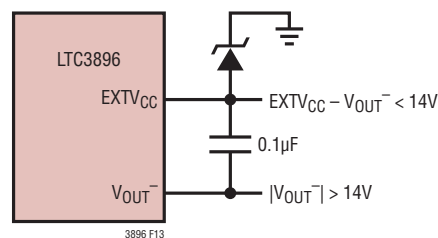

Figure 13. Using a Zener Diode Between  $EXTV_{CC}$  and Ground
4.  $EXTV_{CC}$  connected to ground through an external Zener diode. If the output voltage is more negative than  $-14\text{V}$ , a Zener diode can be used to drop the necessary voltage between ground and  $EXTV_{CC}$  such that  $EXTV_{CC}$  with respect to  $V_{OUT^-}$  remains below 14V (Figure 13). In this configuration, a bypass capacitor from  $EXTV_{CC}$  to  $V_{OUT^-}$  of at least 0.1 $\mu\text{F}$  is recommended. An optional resistor between  $EXTV_{CC}$  and  $V_{OUT^-}$  can be inserted to ensure adequate bias current through the Zener diode.